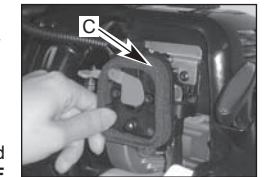

Fig. 21
1. Loosen knob (A) holding air filter cover in place, remove cover (B) and lift filter (C) from air box (Fig. 20 & Fig. 21).